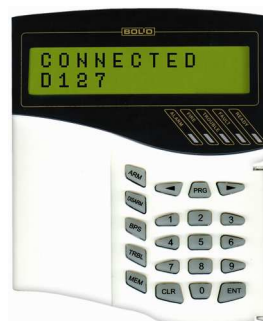

Figure 3
3.6.6 Within a minute since powering on the panel it shall display a message about detecting a device with the network address assigned to the S2000-PT (factory value of the module address is 127). Figure 3 shows the display of the S2000M panel with the relevant message.